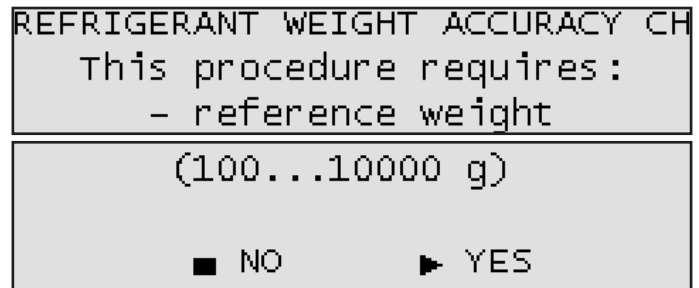

Fig. 34: Refrigerant weight check screens
5. Press **YES** (**↵**) to continue when the screen in Fig. 34 appears.